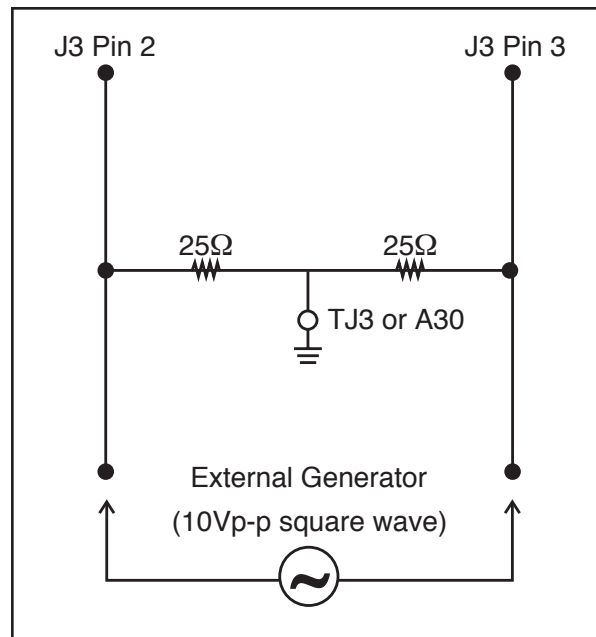

Figure 14-1. Additional Circuitry at Test Jack (TJ3).
- or • With the additional circuitry, as shown in Figure 14-1, one 10 Vp-p square wave signal may be used.